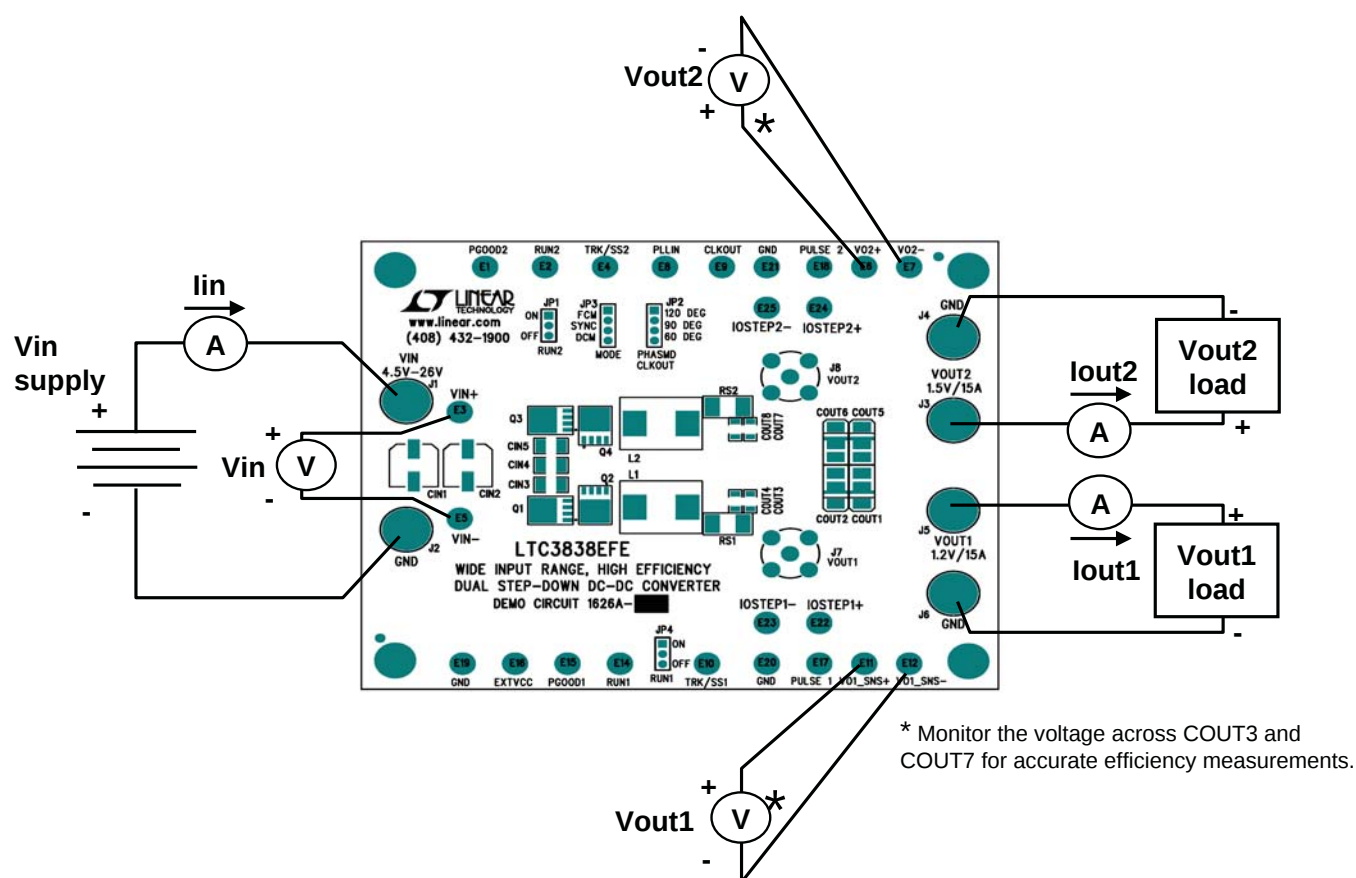

Figure 1. Proper Measurement Equipment Setup
Demonstration circuit 1626A is easy to set up to evaluate the performance of the LTC3838EFE. Please refer to Figure 1 for proper measurement equipment setup and follow the procedure below.
1. With power off, connect the input supply, load and meters as shown in Figure 1. Preset the load to 0A and V_{IN} supply to be 0V. Place jumpers in the following positions: